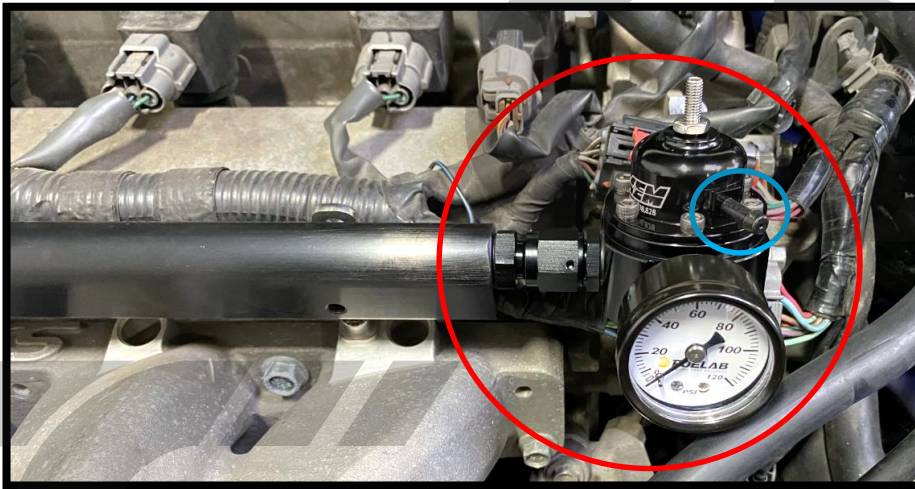

Figure 8d
- f) Install the regulator assembly onto the right side of the fuel rail as shown in **Figure 8d**. The regulator will touch the wiring plugs in this area if you do not have a wire tuck. Angle it so the gauge faces slightly upward for best clearance for the outlet (bottom) fitting, and tighten the regulator assembly to the fuel rail with an 11/16" or adjustable wrench until snug.
- g) Connect a vacuum/boost pressure line from the intake manifold to the port near the top of the fuel pressure regulator, **circled in blue in Figure 8d**. The top of the regulator can be removed and rotated as needed to allow for best clearance for this vacuum/boost line. Use one of the supplied tee fittings and the supplied vacuum hose to complete this connection.